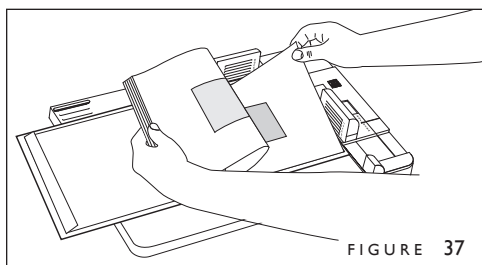

FIGURE 37
5. Carefully lift the right side of the book block and remove the large release paper from the right panel of the cover (Figure 37). Roll and lower the book block onto the panel and press it against the panel to secure it.